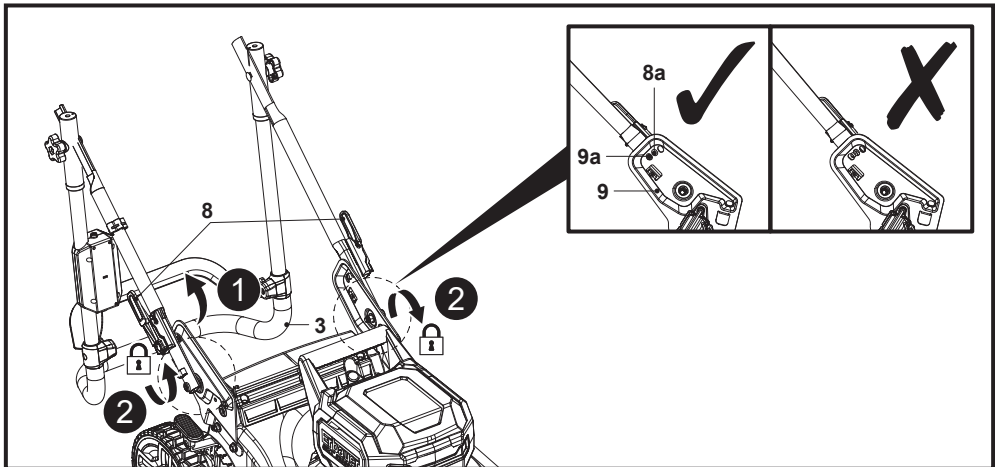

Fig. 2
3. Grasp the grip handle (3) and keep rotating the handle assembly until the lock pin (8a) of the lock lever (8) automatically engaged in one of the holes (9a) of the handle support (9), depending on the need of handle height; Rotate the two lock levers (8) clockwise to secure the assembly (Fig. 2, steps 1, 2).